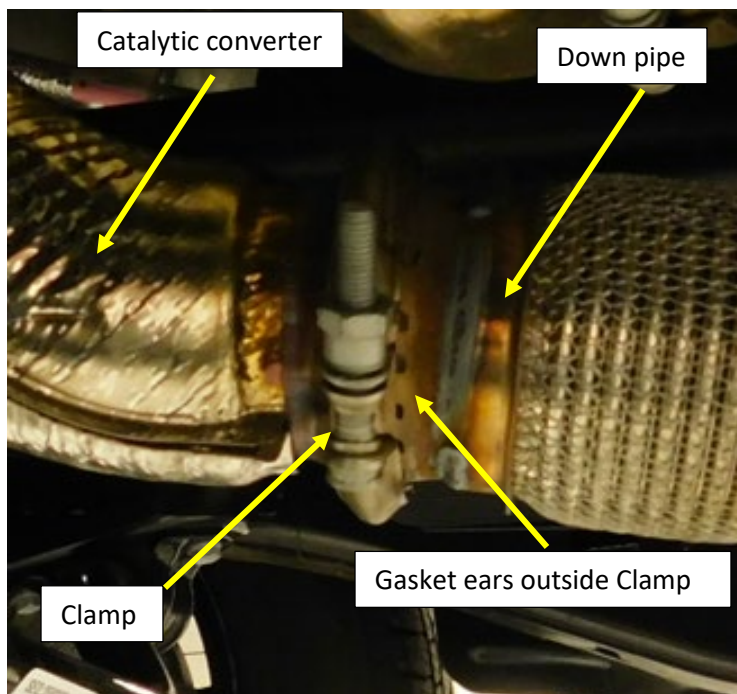

Figure.8
3. Expand the production clamp with the Lock ring pliers and install from the catalytic converter on to the inlet flange while holding the flange against the catalytic converter. The clamp should be fully over the flange lip but **not** be over the locking ears of the gasket. **Fig.8**
4. Install the Bolt, alignment spacer (with the notch toward the clamp) and nut. Tighten the clamp to hold the down pipe in place but allow for adjustment. **Fig.8**